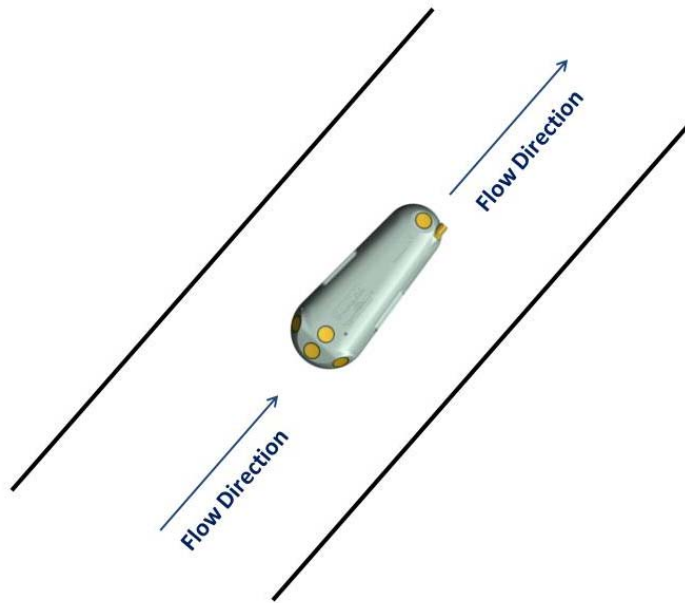

Figure B2. IQ orientation relative to flow
- The IQ is mounted such that the along axis transducer are aligned with the center of the channel (Figure B2).